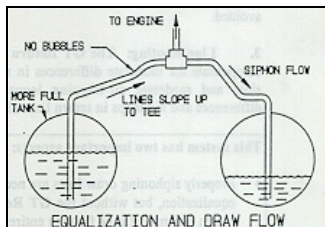

Figure 2: Draw Flow
6. **Draw Flow:** If fuel levels are equal, and the lines are full, the engine will draw equally from each tank. If levels are different, more fuel will flow from the full tank, tending to equalize the tanks. (See Figure 2.)